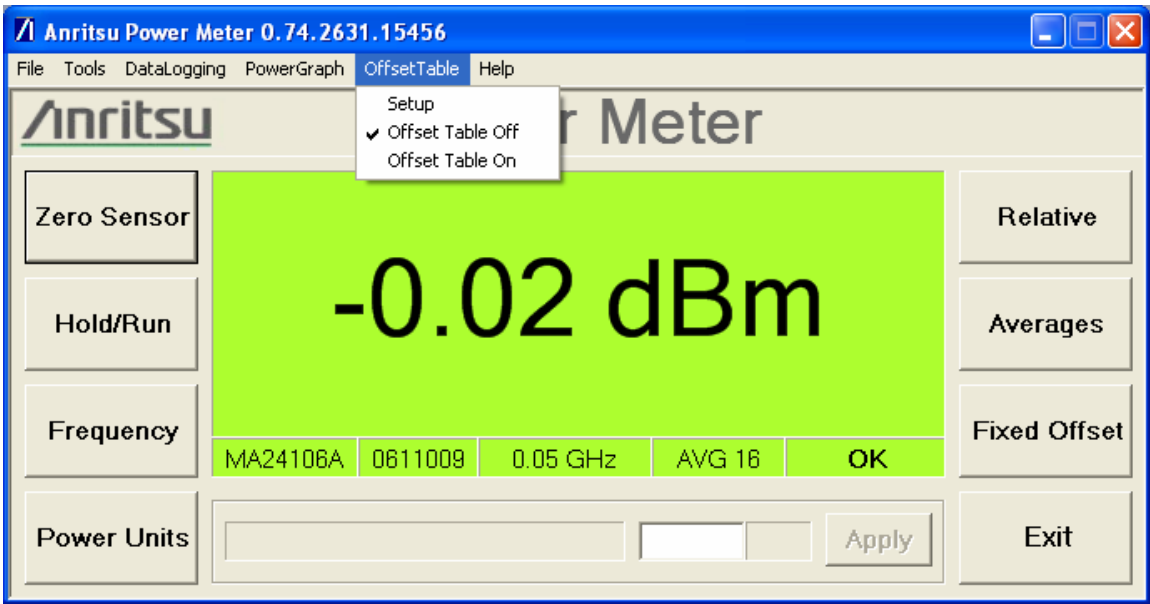

Figure 3-17. Offset Table Menu (Offset Table Off Status)
7. To remove the Offset Table correction, click **Offset Table Off**. A check mark appears in front of Offset Table Off and the word Offset does not appear in the display window (see Figure 3-17).